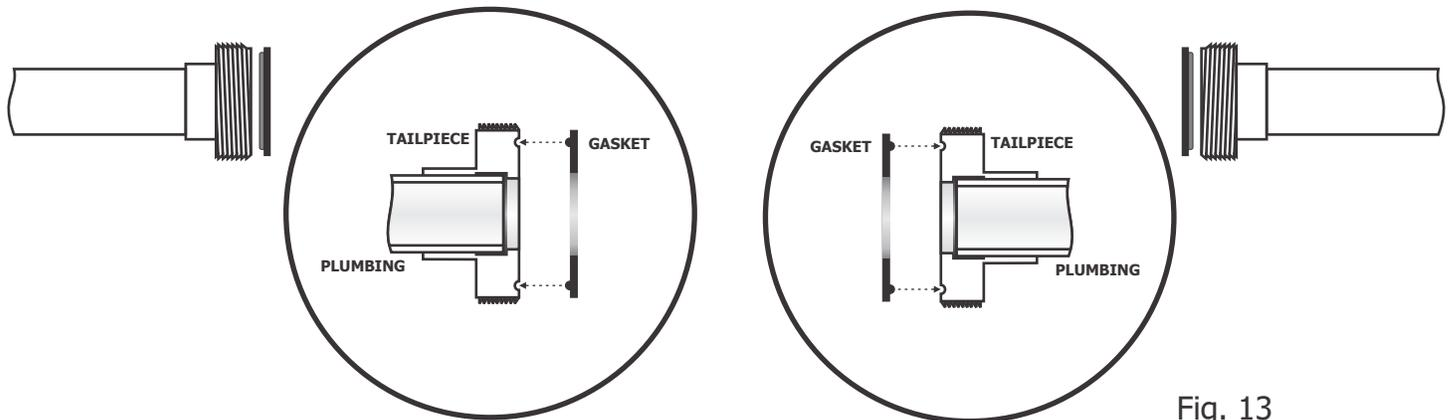

Fig. 13
8 - Remove two (2) heater gaskets included with your Whirlpool heater and install them onto the plumbing tailpieces, making sure the gasket ridge is seated in the tailpiece groove (see Fig. 13). Remove one (1) union gasket and install at pump discharge.